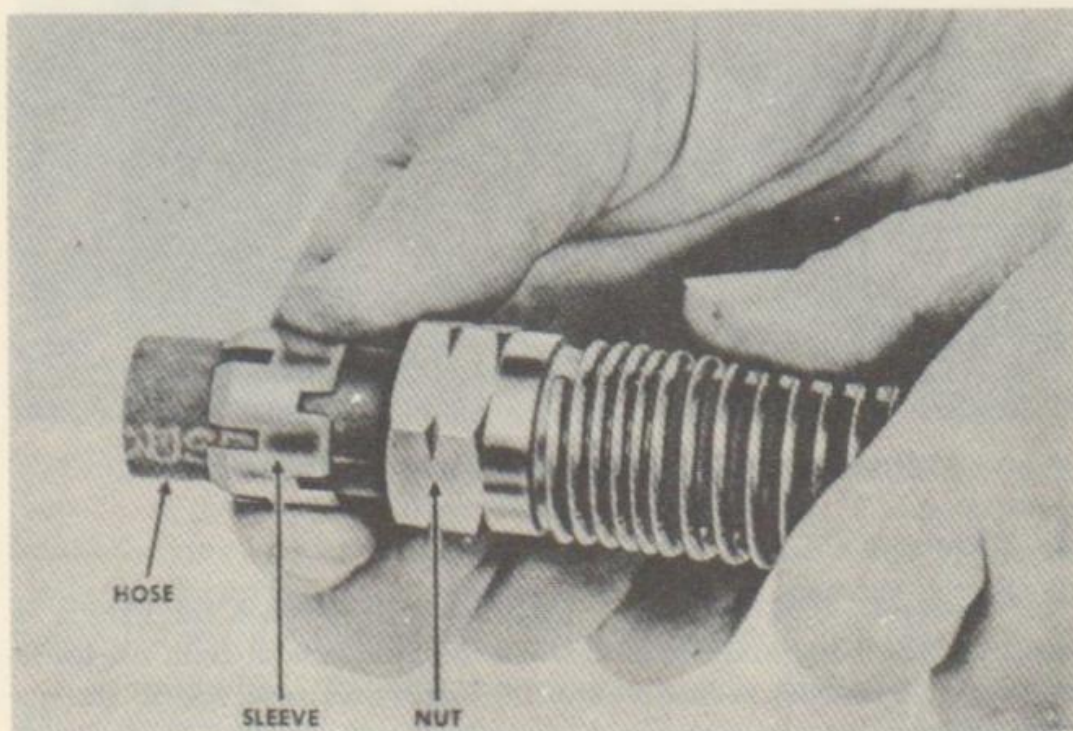
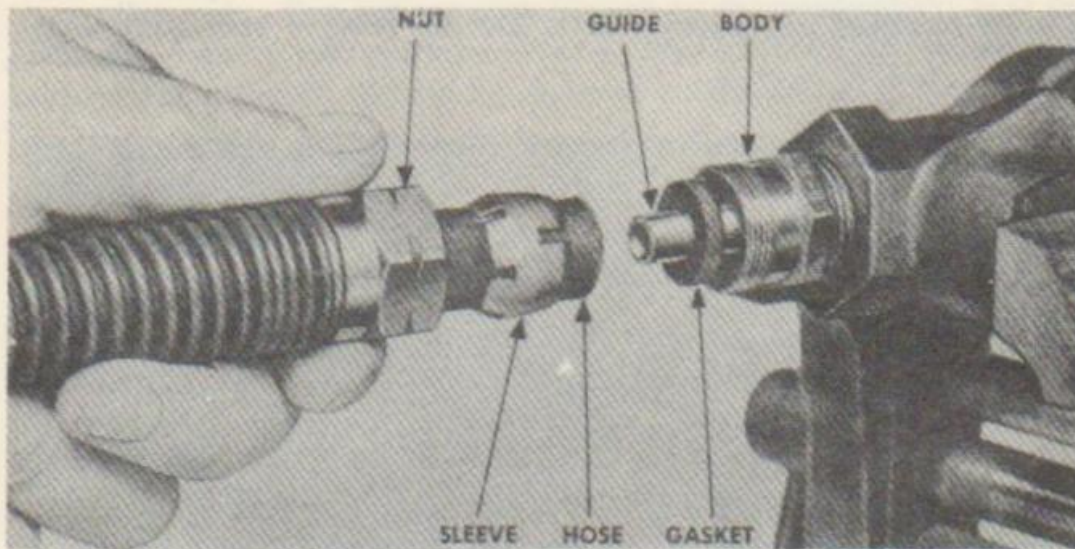

FIGURE 34. CONNECTOR NUT AND SLEEVE POSITIONED ON HOSE
FIGURE 35. PLACING HOSE IN CONNECTOR BODY
(1) Cut hose to the desired length, being sure the cut is made at right angle to the outside wall of the hose and that the end of the hose is smooth. Blow out the hose to remove all cuttings. Position nut and sleeve on hose (fig. 34) being sure the barbs on the inside of the sleeve point toward the end of the hose.
(2) Position a new gasket over the end of the guide in the fitting body so the side with the removable protection cover will be next to the hose.
(3) Remove the protection cover from gasket.
(4) Put the end of the hose in the fitting body (fig. 35), making certain the end of the hose and the gasket are against the bottom of the recess in the fitting body.
(5) Move the sleeve, if necessary, until it is against the edge of the fitting body. Then tighten the nut.